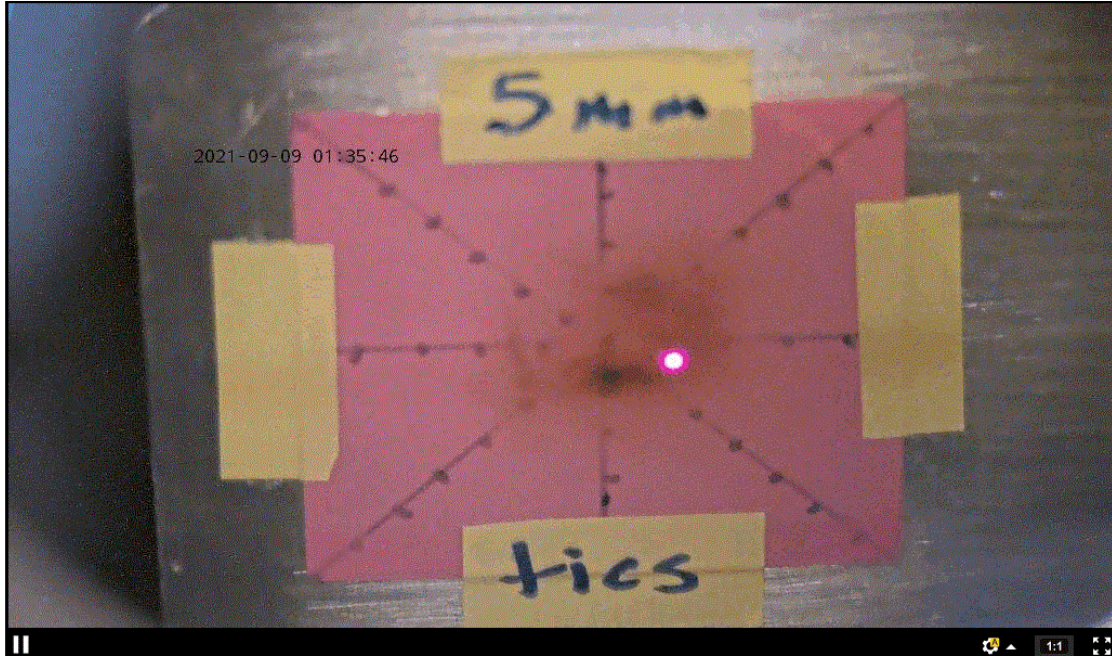

Figure 3: Beam spot on the Faraday cup viewer.
- a. make sure beam is clearly visible on the downstream viewer, use Chromox screen1. Beam should be within 10 mm (2-tick marks) around the center (see Figure 3)
- a. make sure beam is clearly visible on the downstream viewer, use Chromox screen2. Beam should be within 10 mm (2-tick marks) around the center (see Figure 3)